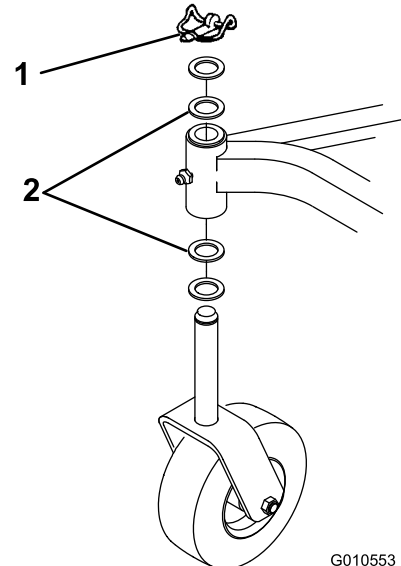

Figure 26
- A. Cutting units usually operated at 1 to 2 inches (25 to 51 mm) height-of-cut should have the low side of the cutting unit raised. Remove the lynch pin securing the castor wheel on the low end (Figure 26) and remove the castor assembly.
- C. If the cutting unit is operated at the 2 to 4 inches (51 mm to 102 mm) height-of-cut, lower the high side of the cutting unit. Remove the lynch pin of the castor at the high end of the unit and remove the castor assembly (Figure 26).